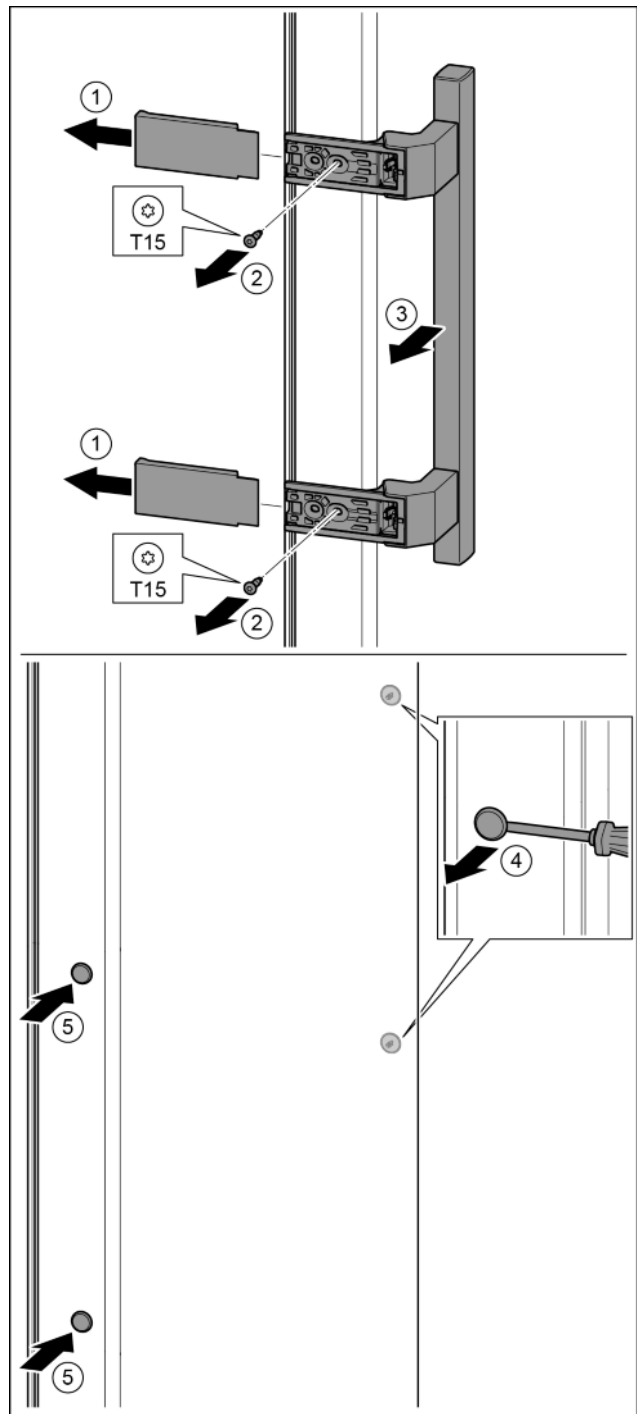

Fig. 19
- ▶ Remove the cover. Fig. 19 (1)
- ▶ Remove the screws with the T15 screwdriver. Fig. 19 (2)
- ▶ Remove the handle. Fig. 19 (3)
- ▶ Carefully lift up the plugs and remove them with a slotted screwdriver. Fig. 19 (4)
- ▶ Insert the plugs again on the other side. Fig. 19 (5)